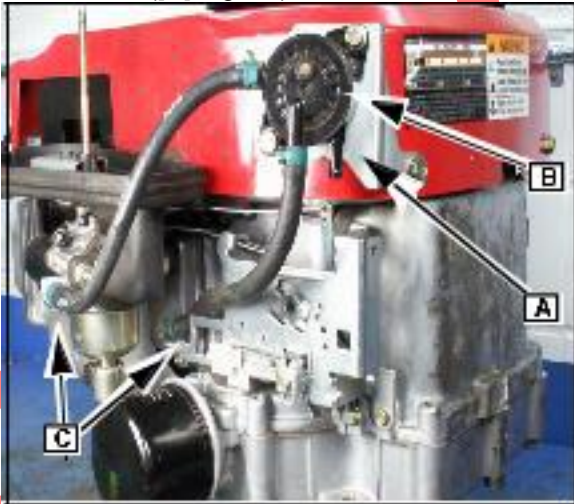

Fig. 55
Install pump (B) and connect fuel lines ([C] Fig. 55).